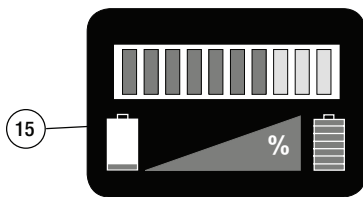

Fig. 4
3.1 BATTERY STATUS (Refer to Fig. 4)
- After releasing the operating button, the residual battery capacity is automatically displayed for 5 seconds on the indicator (15).